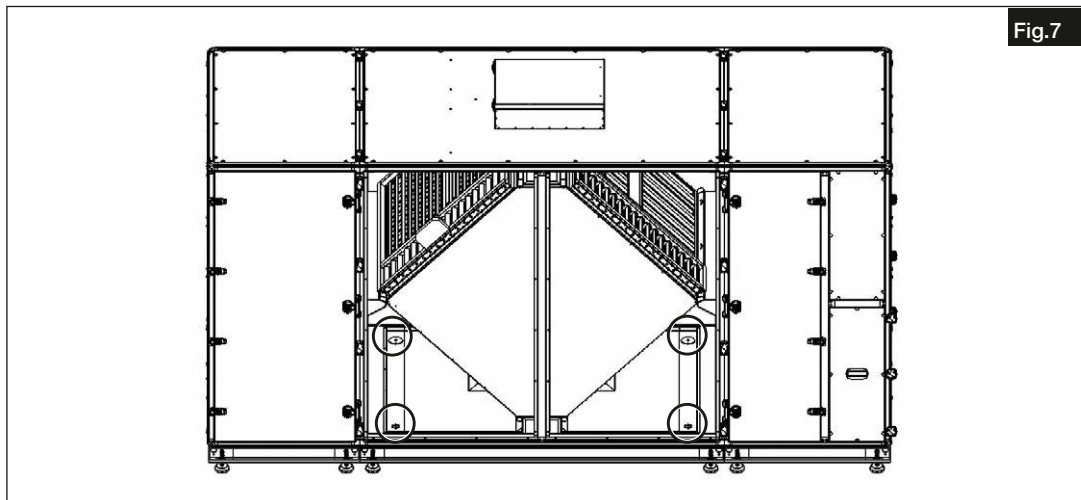

Fig.7
- **Ensure that the unused condensation outlets are closed (see Fig.7).**